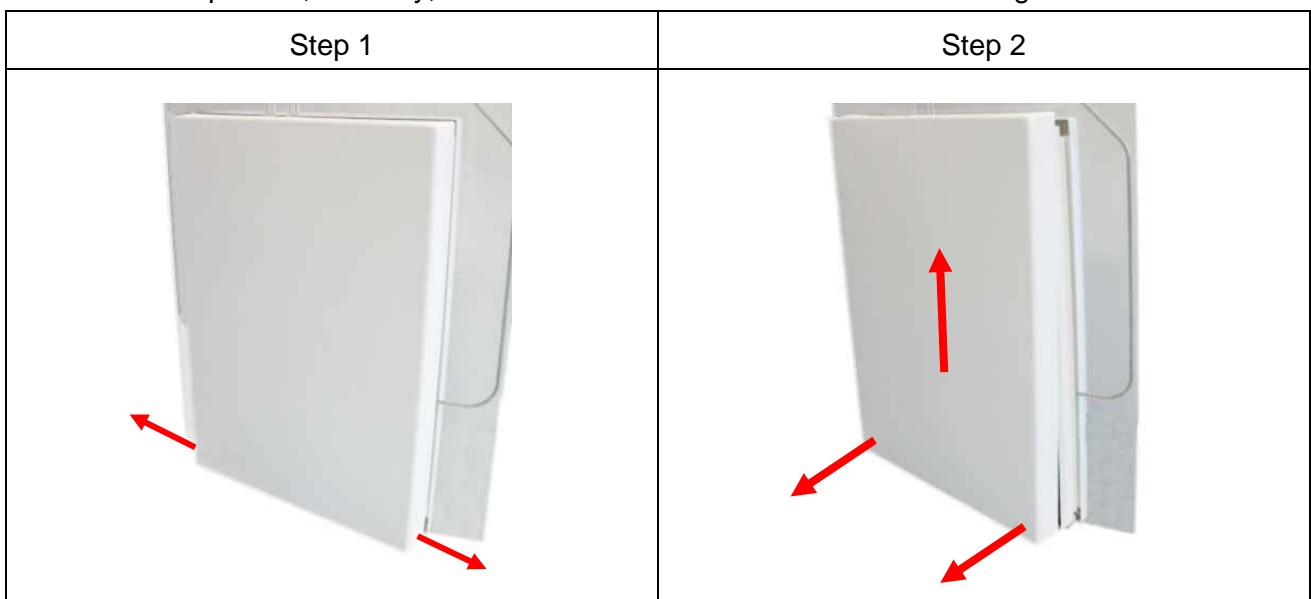

Fig. 2: Opening the antenna base
2. Afterwards, the antenna has to be placed carefully on the floor again. Now, the two fastening screws (hexagon socket width AF 2,5) have to remove of the antenna base cover. By moving the cover upwards, carefully, remove the cover from the antenna base. Fig. 2